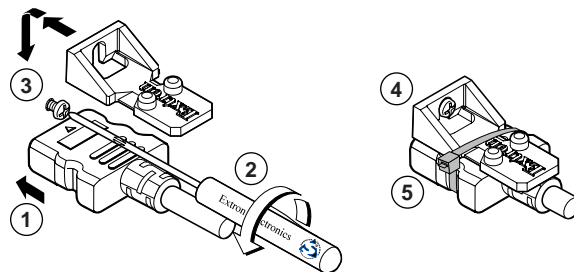

Figure 6. Installing the LockIt Lacing Bracket
1. Plug the HDMI cable into the panel connection (see ① in figure 6).